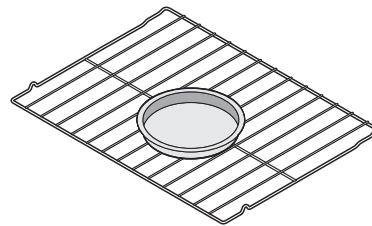

Figure 26: Single rack baking for convenience foods
- Place the food as shown in Figure 26.